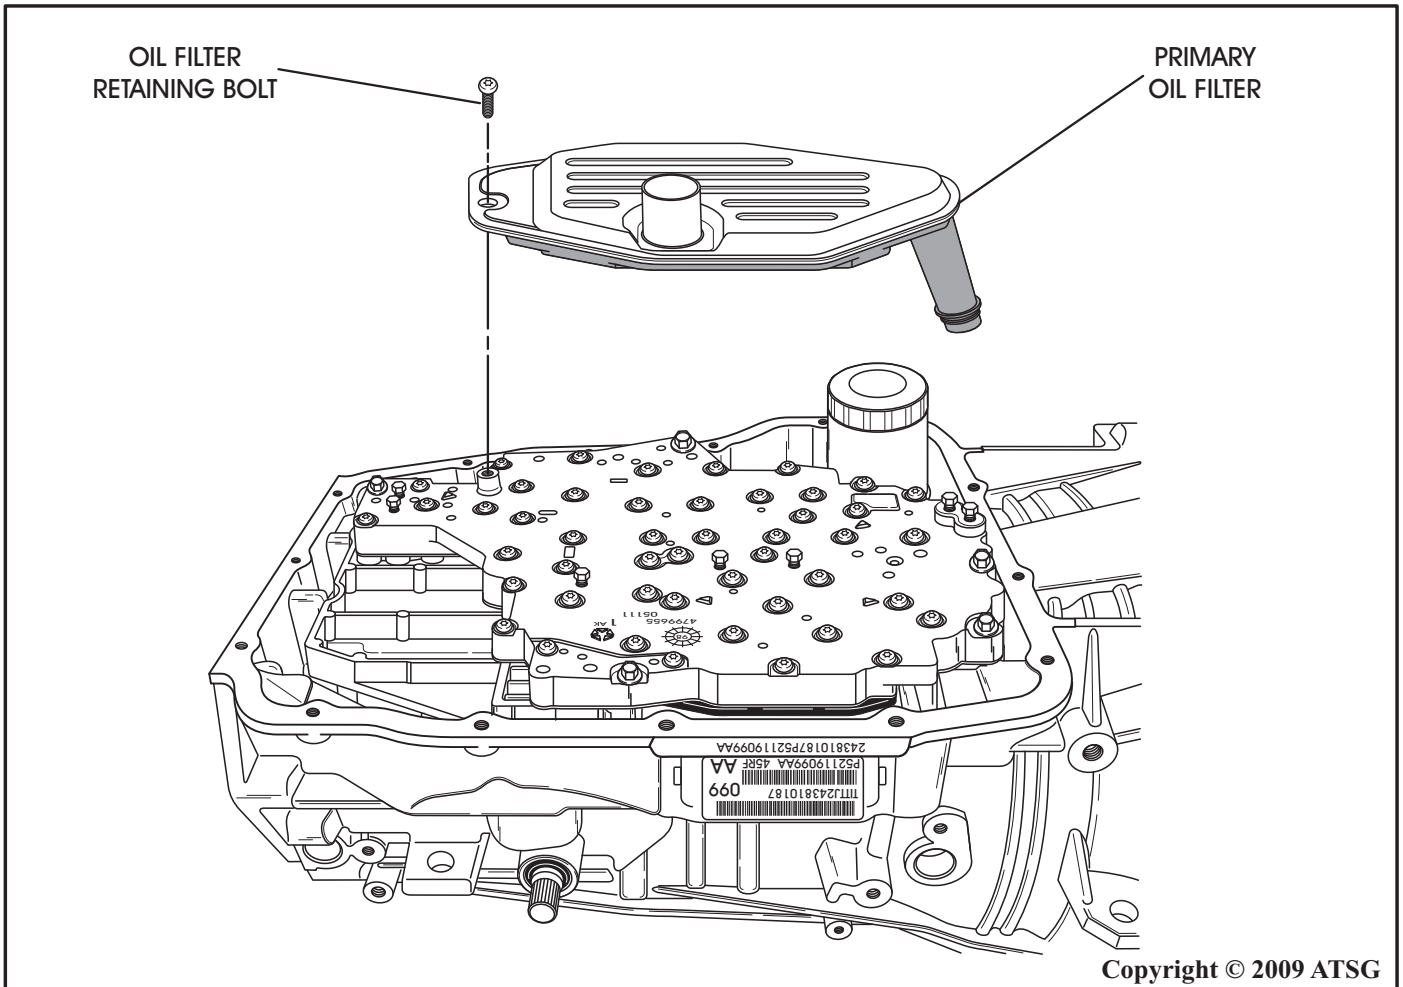

Figure 128
55. Install a new primary bottom pan oil filter as shown in Figure 128.